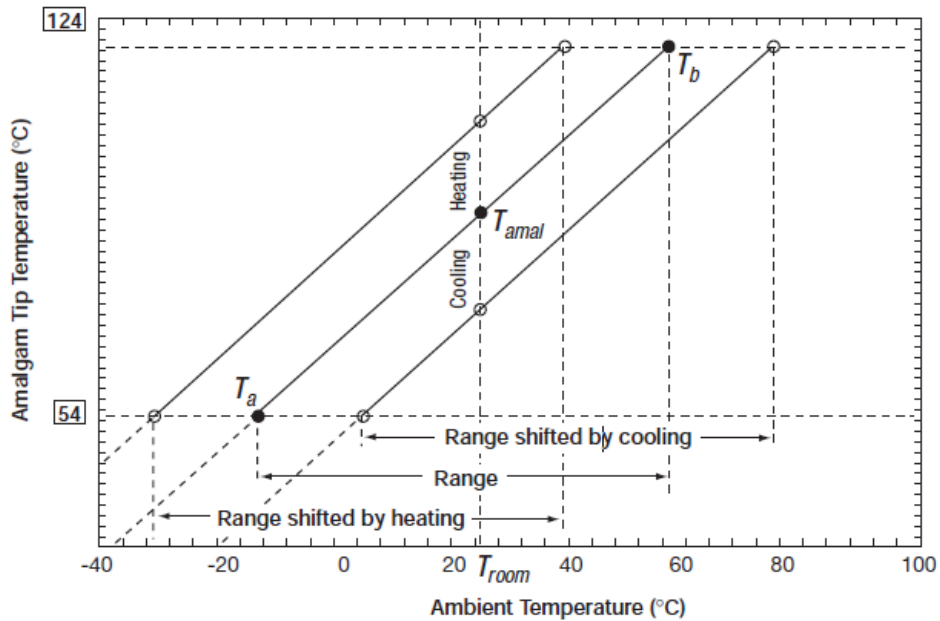

Figure 30: Amalgam temperature as a function of fixture ambient temperature
- The temperature limits, T_a and T_b , corresponding to the ambient temperature limits for at least 90% peak light output are too high, or too low. For example, T_b could be much higher than T_{max} , thus preventing the fixture from taking advantage of the amalgam's full temperature range. This means that the amalgam tip is too cold for any given fixture ambient temperature. Whether or not action must be taken to adjust the amalgam temperature range is a judgment call of the designer. Figure 30 shows the amalgam temperature as a function of fixture ambient temperature. Figure 30 also shows the effect of heating or cooling the amalgam tip on operating ambient temperature range. Cooling shifts the range up and heating shifts the range down (see Figure 30). For every degree the ambient temperature changes, the temperatures internal to the fixture change by one degree. So, according to the graph, to shift the entire range by ΔT degrees, you must apply heating (or cooling) to the amalgam tip so that at any given fixture ambient temperature, the amalgam temperature changes by an amount $-\Delta T$.